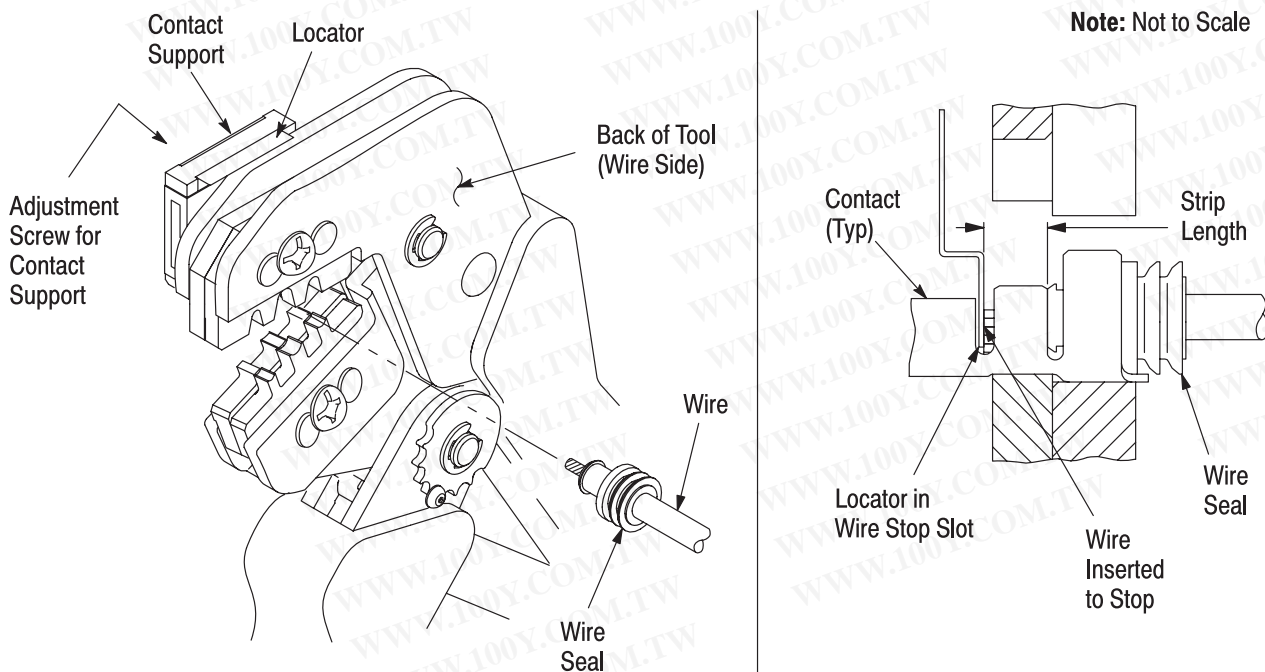

Figure 3
4. CONTACT SUPPORT ADJUSTMENT (Figure 3)
Refer to the table in Figure 1 and select wire of the specified size and insulation diameter. Strip the wire to the length indicated in Figure 1, taking care not to nick or cut wire strands. Select an applicable contact and identify the appropriate crimp section according to the wire size markings on the tool. Refer to Figure 3 and proceed as follows:
3. Position the contact so that the mating end of the contact is on the locator side of the tool, and so that the open “U” of the wire and insulation barrels must face the top of the tool. Place the contact up into the nest so that the movable locator drops into the slot in the contact. Refer to Figure 3. Butt the front end of the wire barrel against the movable locator.
5. Insert stripped wire (with the wire seal) into contact insulation and wire barrels until it is butted against the wire stop, as shown in Figure 3.
NOTE The crimped contact may stick in the crimping area, but the contact can be easily removed by pushing downward on the top of the locator (see Figure 3).